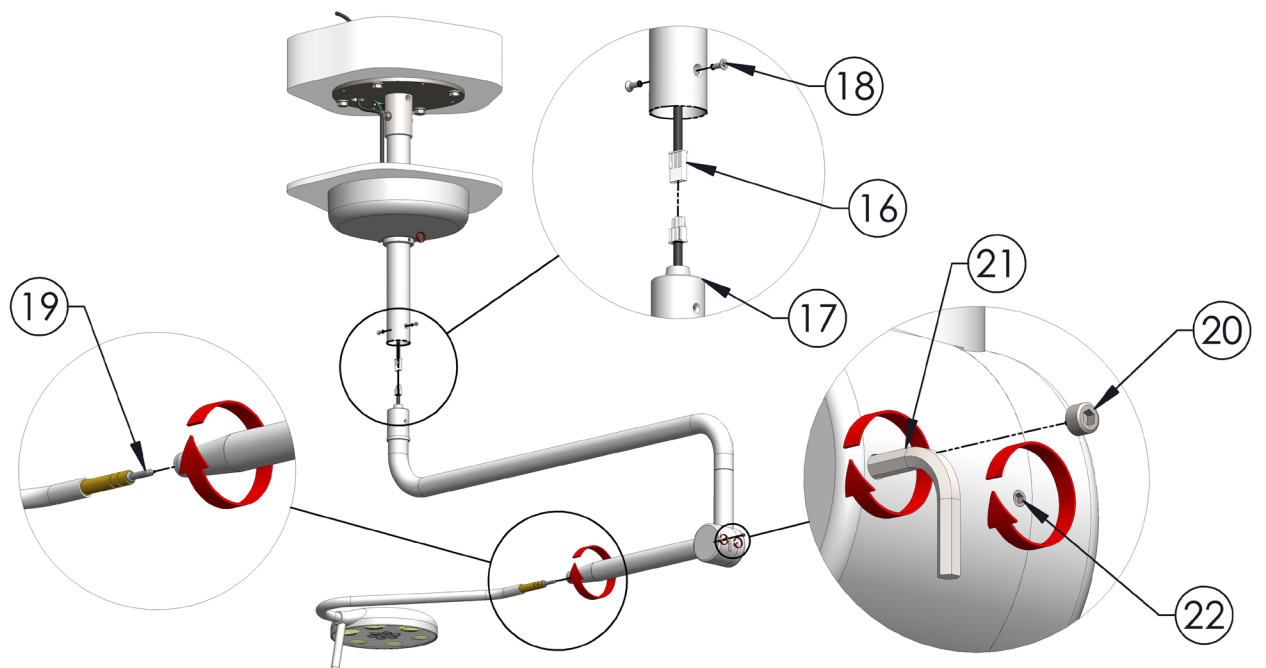

Fig. 14.0
16. Lift Phantom arm into place, and engage the 24V plugs as shown in Fig. 14.0.
17. Insert the arm bearing into the ceiling tube (taking care to align the threaded holes on the bearing sheath with the countersunk holes on the ceiling tube), as shown in Fig. 14.0.
18. Insert the countersunk-head set screws as shown in Fig. 14.0.
19. Optional - remove or replace the lamp head - twist the conical end of the arm and pull the head and s-bend section, as shown in Fig.14.0.
20. Unscrew the end cap for access to the spring balance adjustment with a 4mm Allen Key, as shown in Fig. 14.0.
21. Adjust the spring balance: using a 4mm allen key, adjust the screw inside the knuckle. Clockwise/Tightening the screw will cause heavier engagement of the spring - this will improve 'head droop'. Anticlockwise/loosening the spring balance will fix a 'rising head' issue, as shown in Fig. 14.0.
22. Friction adjustment: Clockwise/tightening this screw will apply more friction to the arm mechanisms. The arm will require more force to move, and will not move as far with the momentum of an individual movement. This should be set to the staff preference, as shown in Fig 14.0.